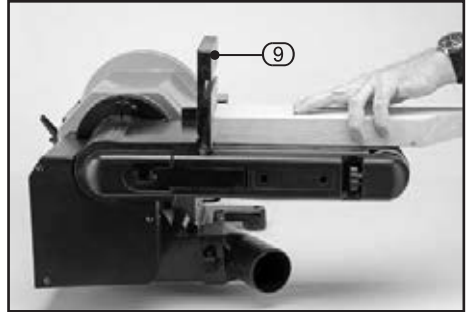

FIG.11
9.2 HORIZONTAL SANDING - FIG. 11